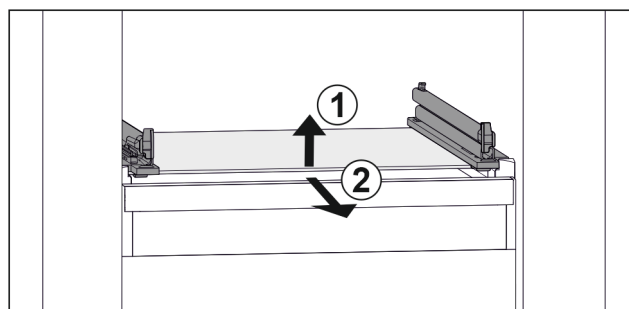

Fig. 101 Example illustration of glass shelf
- Lift glass shelf at the front. Fig. 101 (1)
- Remove glass shelf to the front. Fig. 101 (2)